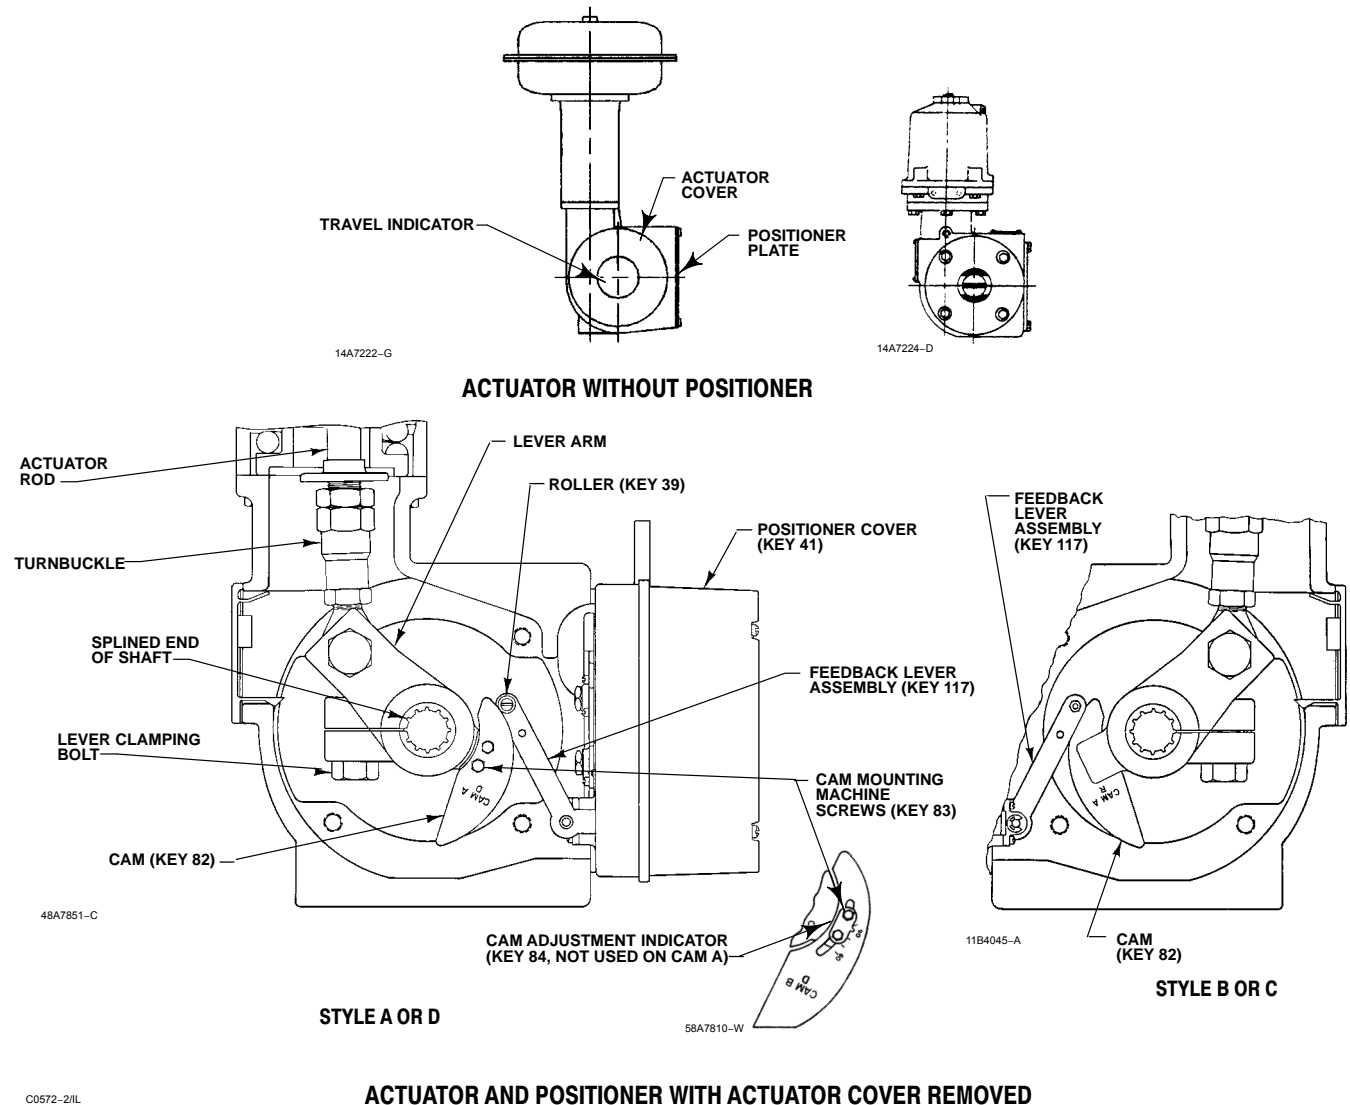

Figure 3. Typical Mounting Details for 3610J and 3620J Series Positioners on Rotary Actuators
During the following mounting procedures, refer to figure 3 for part locations. Refer to figure 28 for key number locations unless otherwise indicated.
**Cams A, B, and C have the letter D (direct acting) on one side and the letter R (reverse acting) on the other side. Always install the cam with the letter D on the same side as the cam mounting screw heads (key 83, figure 3).**
7. Install the desired cam (key 82) on the actuator lever with the cam mounting screws (key 83). Cams B and C use the cam adjustment indicator (key 84) between the screw heads and the cam. Align the
During the following procedures, refer to figure 3 for part locations and refer to figure 28 for key number locations unless otherwise indicated.
7. Install the desired cam (key 82) on the actuator lever with the cam mounting screws (key 83). Cams B and C use the cam adjustment indicator (key 84)